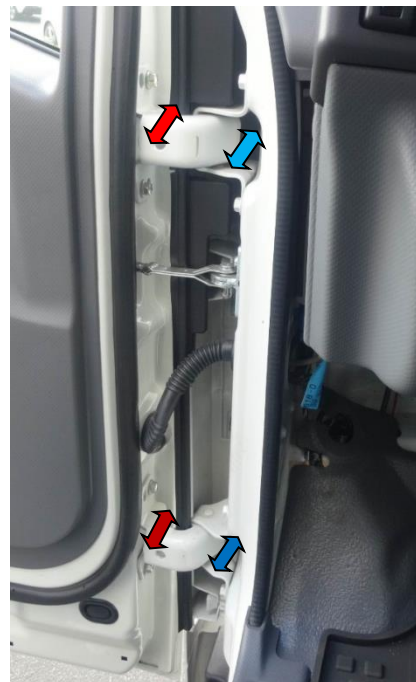

Figure 15 - View from inside driver's door.
- a. If the door protrudes from the body or is recessed into the body lines, adjust the door where the door hinge bolts to the door marked by red arrows in Figure 15.
- b. If the door is not centered in the door frame, adjust the door where the door hinge bolts to cab, marked by blue arrows in Figure 15.